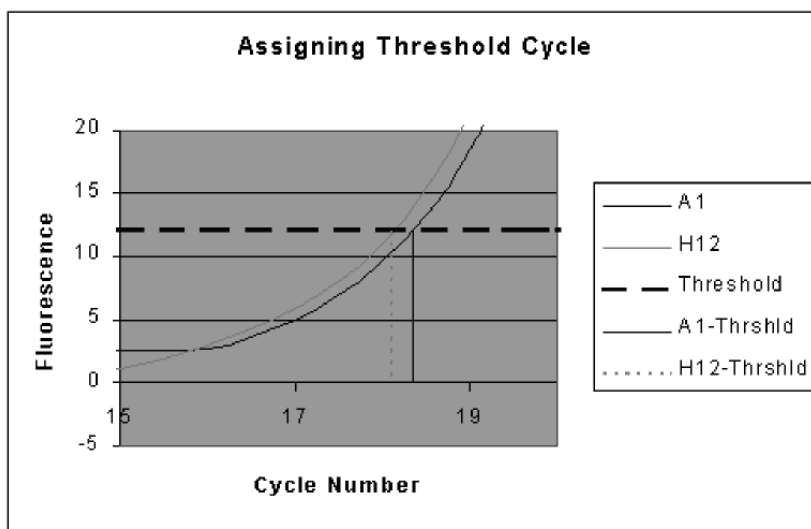

Fig. G.5. Assigning a Threshold Cycle.
- E. Finally the threshold cycle is determined by dropping a perpendicular line from the trace of a well as it crosses the threshold. In this example, the software would assign a threshold cycle of 18.35 for well A1 and 18.12 for well H12. See fig G.5 on next page.